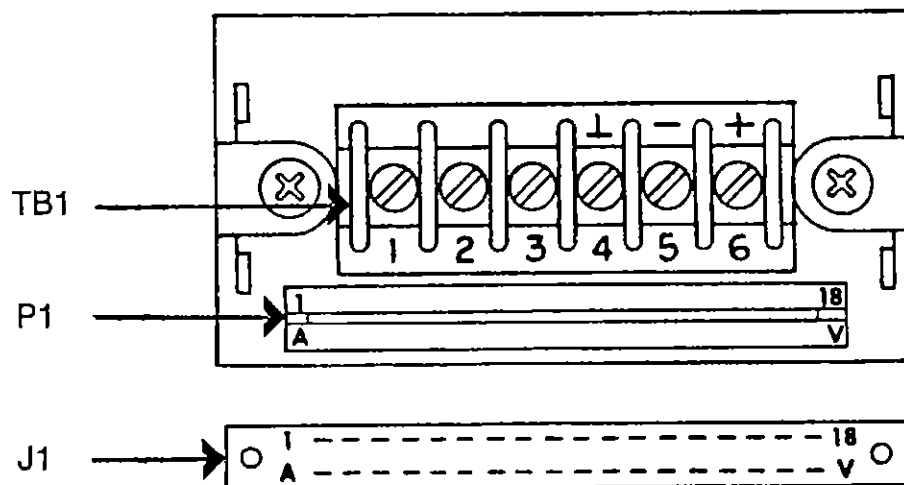

Figure 4-2 Rear View of Case with Connectors
1. Refer to Figure 4-2. Apply the minimum input signal to TB1-5 (SIG LO) and TB1-6 (SIG HI).